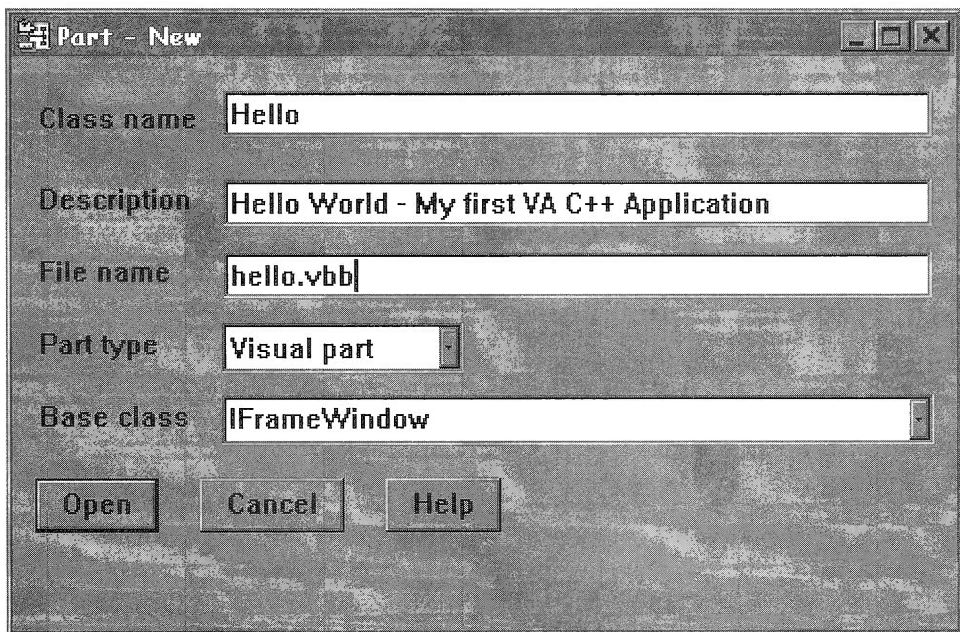

Figure 17: New visual part
- ❑ Select **New** and the panel to specify a part new is displayed. See Figure 17.